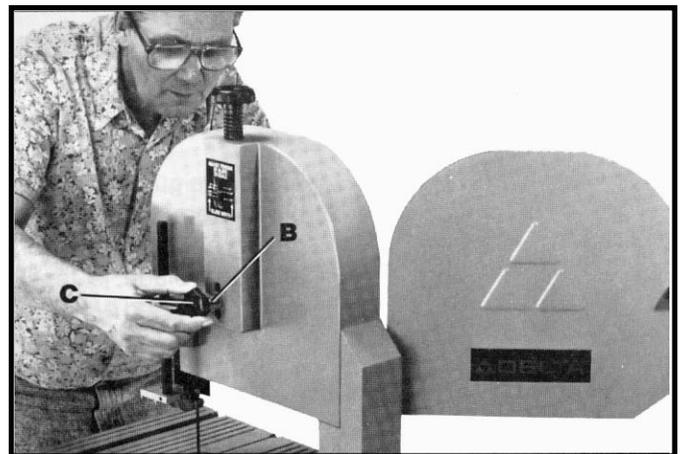

Fig. 19
4. If the blade is not riding on the center of the wheel, loosen wing nut (B) Fig. 19, and while turning the upper wheel by hand, turn tracking knob (C) slightly clockwise or counter-clockwise. You will notice that the saw blade will move to the right or left on the wheel. **NEVER RUN THE SAW TO TRACK THE BLADE.**
5. When the blade is tracking properly, tighten wing nut (B) Fig. 19.